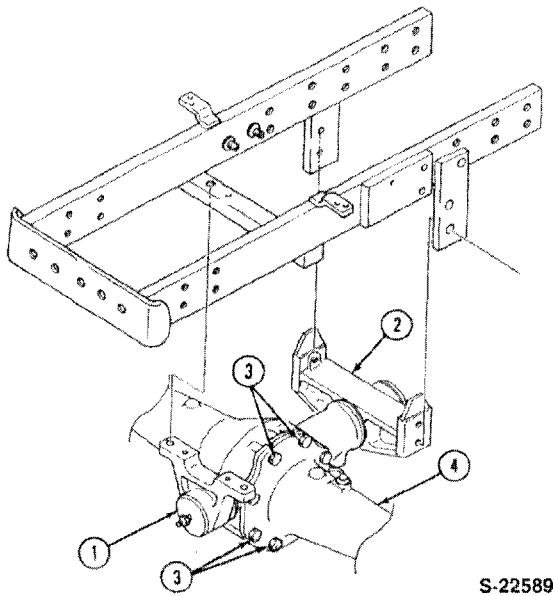

Figure 20
1. Remove axle pivot front and rear bearing holders (1 and 2), Figure 20.
2. Remove the left axle housing retaining bolts (3) and remove the axle housing and shaft as an assembly (4), Figure 20.